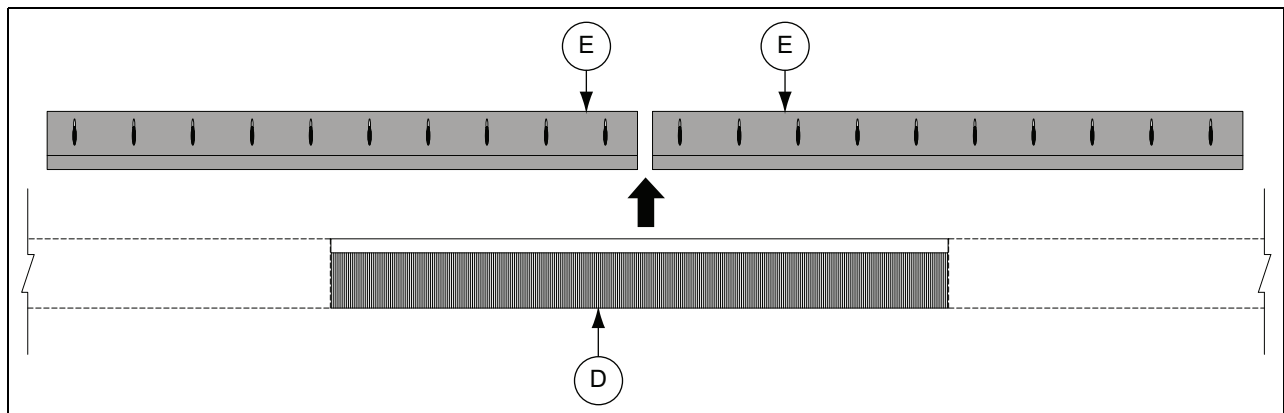

Figure 7J
3. Assemble brush (D) to brush holder (E) to the desired length and cut brush holder (E) with a suitable device. Crimp the two (2) ends of the brush holder, locking the brush in place. *(See Figure 7J.)*